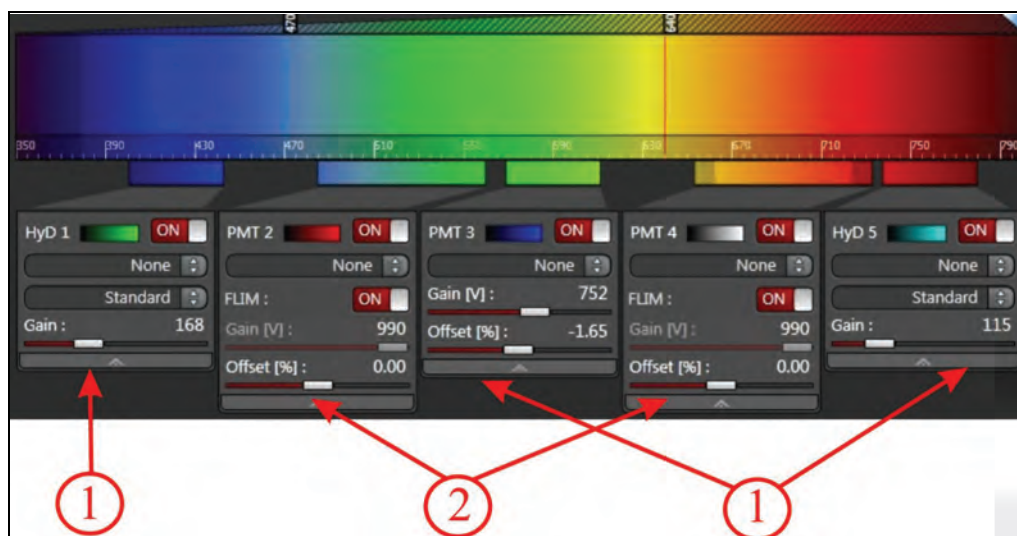

Figure 114: Beam Path Settings of LAS AF when using detectors for default image acquisition (1) and internal FLIM detectors for intensity image acquisition (2)
5. For multi-channel image acquisition you can use the default image acquisition PMTs (Figure 114, item 1) along with the SP FLIM photomultipliers (Figure 114, item 2).